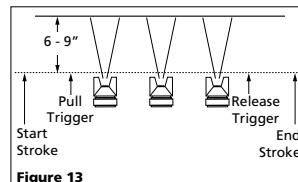

Figure 13
5. If the atomization is too coarse, reduce the tank pressure with the tank regulator. Trigger a short burst or open relief valve to relieve the pressure, then increase pressure slowly to obtain proper pattern consistency (See Figure 13).
2. "Trigger" the gun properly. Start the gun moving at the beginning of the stroke BEFORE SQUEEZING THE TRIGGER and release the trigger BEFORE STOPPING GUN MOVEMENT at the end of the stroke. This procedure will "feather" (blend) each stroke with the next without showing overlap or unevenness (See Figure 13).